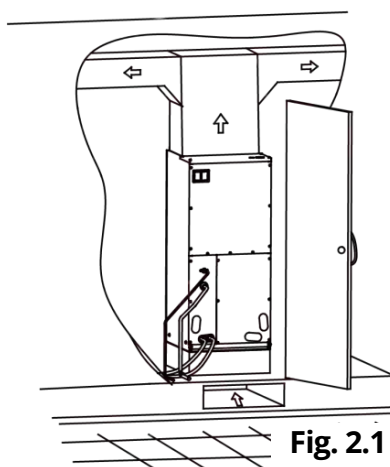

Fig. 2.1
- ⊘ **DO NOT** install the air handler in enclosed areas, such as garages, utility rooms or parking areas. Carbon monoxide producing devices (such as an automobile, space heater, gas water heater, etc.) should not be operated in enclosed areas such as unventilated garages, utility rooms or parking areas because of the danger of carbon monoxide (CO) poisoning resulting from exhaust emissions. If a furnace or air handler is installed in an enclosed area such as a garage, utility room, or parking area, and a carbon monoxide producing device is operated therein, there must be direct ventilation to the outside. Adequate ventilation is necessary to avoid the danger of CO poisoning which can occur if a carbon monoxide producing device continues to operate in an enclosed area. If these warnings are not followed, Carbon monoxide emission can be (re)circulated throughout the building from the air handler causing serious illness including permanent brain damage or death.
- If air handler is installed as **Fig. 2.1**, the air handler should be concealed in a specific room or space and make sure the air handler is not accessible to the general public.